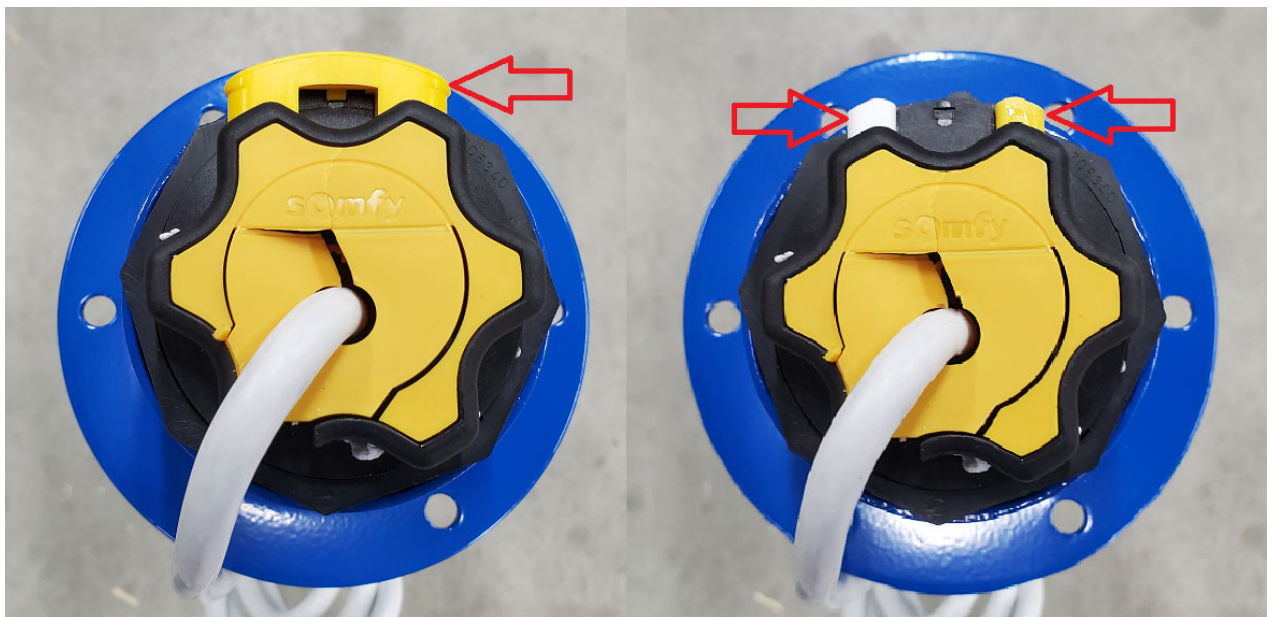

**FIG3 – HOSE ASSEMBLY**
11. Fasten the exhaust adapter to the end of the flexible hose using the provided hose clamp as shown in FIG3. To ensure a rigid connection is established, drill and rivet the connections through the hose clamps.